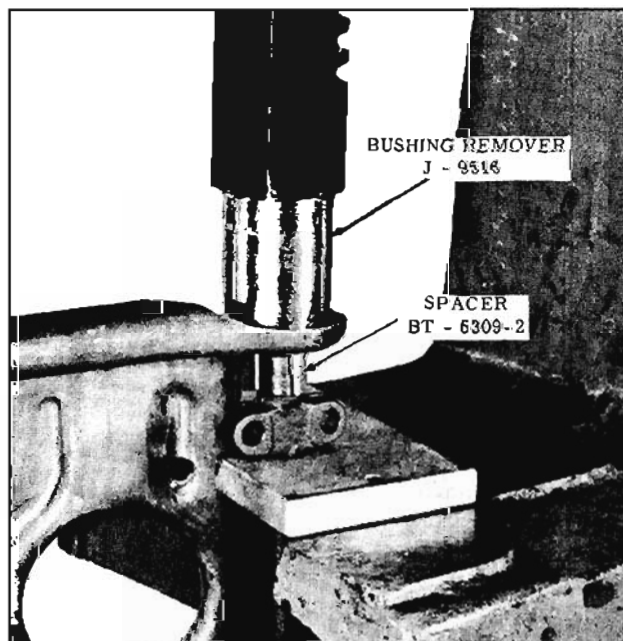

Fig. 9-22 Pivot Shaft Bushing Removal
6. Place control arm assembly in press as shown in Figure 9-22 and finish pressing bushing from control arm.